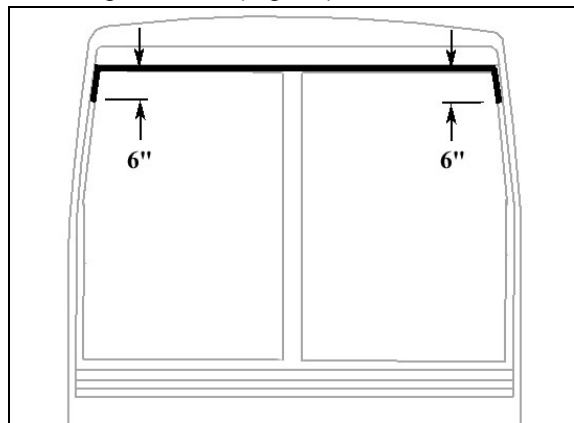

FIGURE 44: APPLICATION OF SIKA 221 BLACK
7. At the top of windshield, clean surface between fiberglass and rubber extrusion using Sika 205 (Fig. 44).